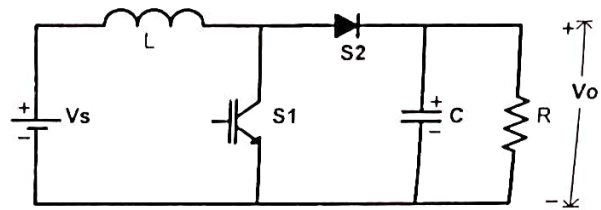

Fig. 2
2. The boost converter shown in Fig.2 is operating in discontinuous conduction mode with a duty ratio of  $0.5$  and switching frequency of  $50\ KHz$ . Assume that all components used in this converter are ideal.  $V_s=30V$ ,  $R=50\ \Omega$ ,  $L=40\ \mu H$ .
2. Fig.2 shows a flyback converter with ideal components.. The turns ratio  $N_1:N_2$  is 1 : 0.125.  $V_s=100V$ ,  $R=1\Omega$ . The secondary inductance is 5  $\mu H$ . The capacitance  $C=100\mu F$ . Duty ratio  $D=0.6$ . The switching frequency is 10 KHz.
- Evaluate the power delivered to the load (R).